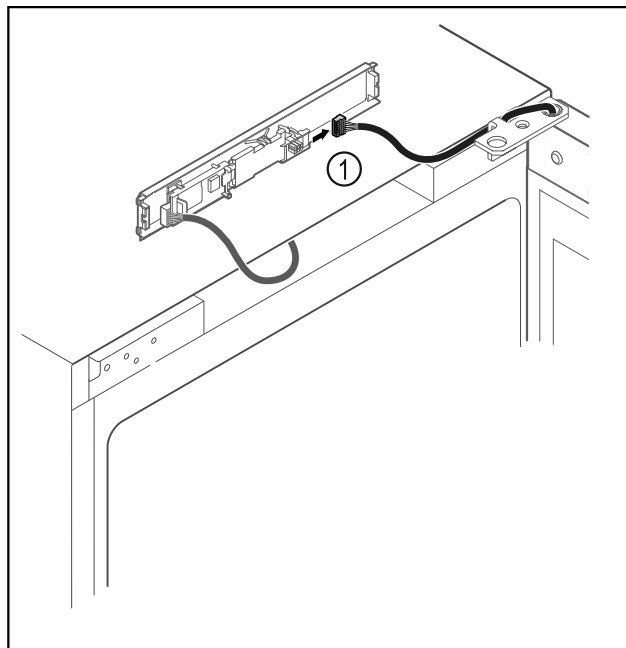

Fig. 7
- Disconnect the plug *Fig. 7 (1)* from the circuit board.